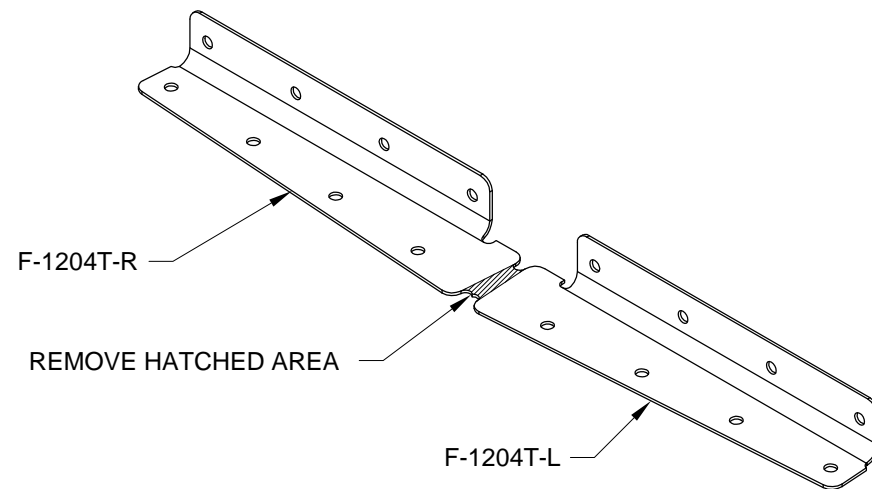

FIGURE 2: SEPARATING F-1204T
Step 2: Separate F-1204T by removing the hatched areas shown in Figure 2.